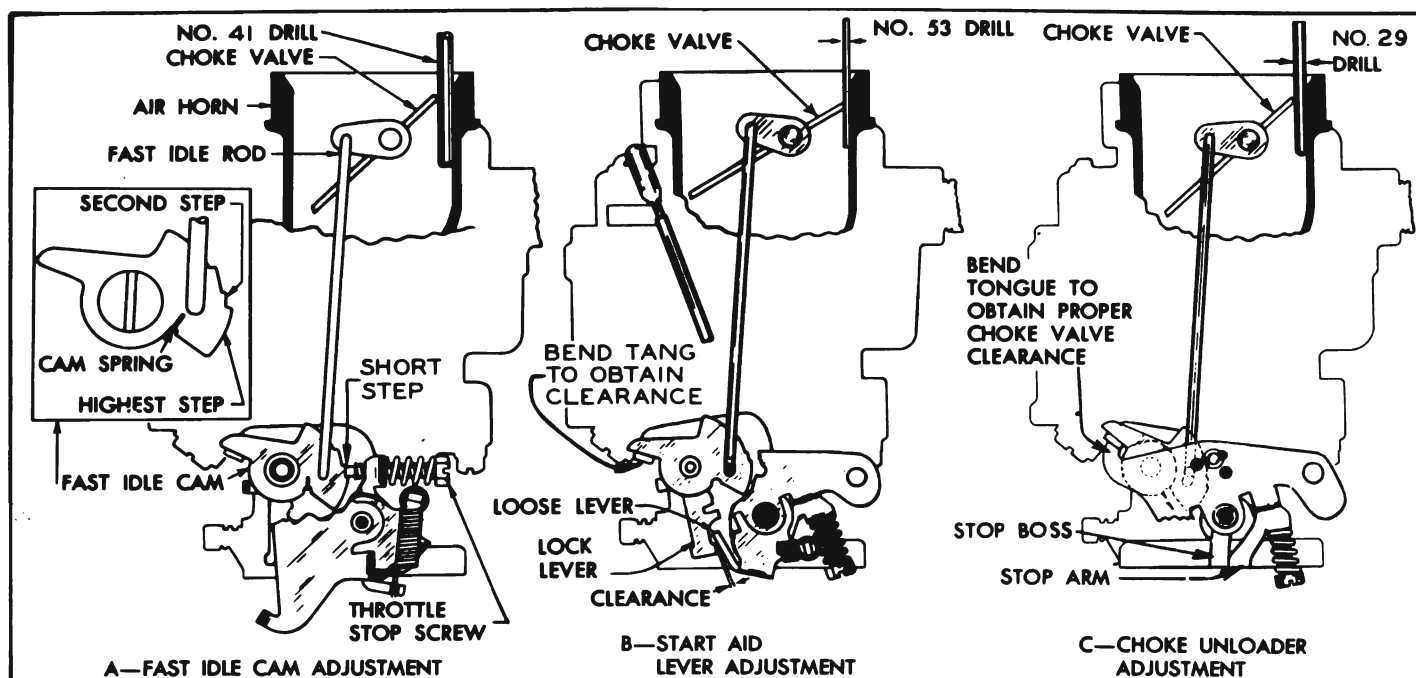

Figure 3-63—Fast Idle Cam and Choke Unloader Adjustments
tension on the choke valve. The choke valve is in the wide open position and the fast idle cam is in the slow idle position so that the throttle stop screw bears against the lowest step of fast idle cam at closed throttle. See figure 3-63 (C).
2. Place a No. 41 drill between wall of air horn and the center of upper edge of choke valve, and hold valve firmly closed against the drill. See figure 3-63 (A).
against second (short) step, as shown in figure 3-63 (A).
5. Remove the No. 41 drill and place a No. 53 drill at the same point, then hold choke valve firmly closed against drill. See figure 3-63 (B).
6. Slowly open and close throttle valve several times and check clearance between the start aid loose lever on throttle stem and the lock lever behind the fast idle cam as indicated in figure 3-63 (B).
8. Open throttle until the stop arm on throttle lever bears against the stop boss on throttle body, then check clearance between wall of air horn and upper edge of choke valve, using a No. 29 drill. Bend the tongue on throttle lever as required to obtain specific clearance. See figure 3-63 (C).